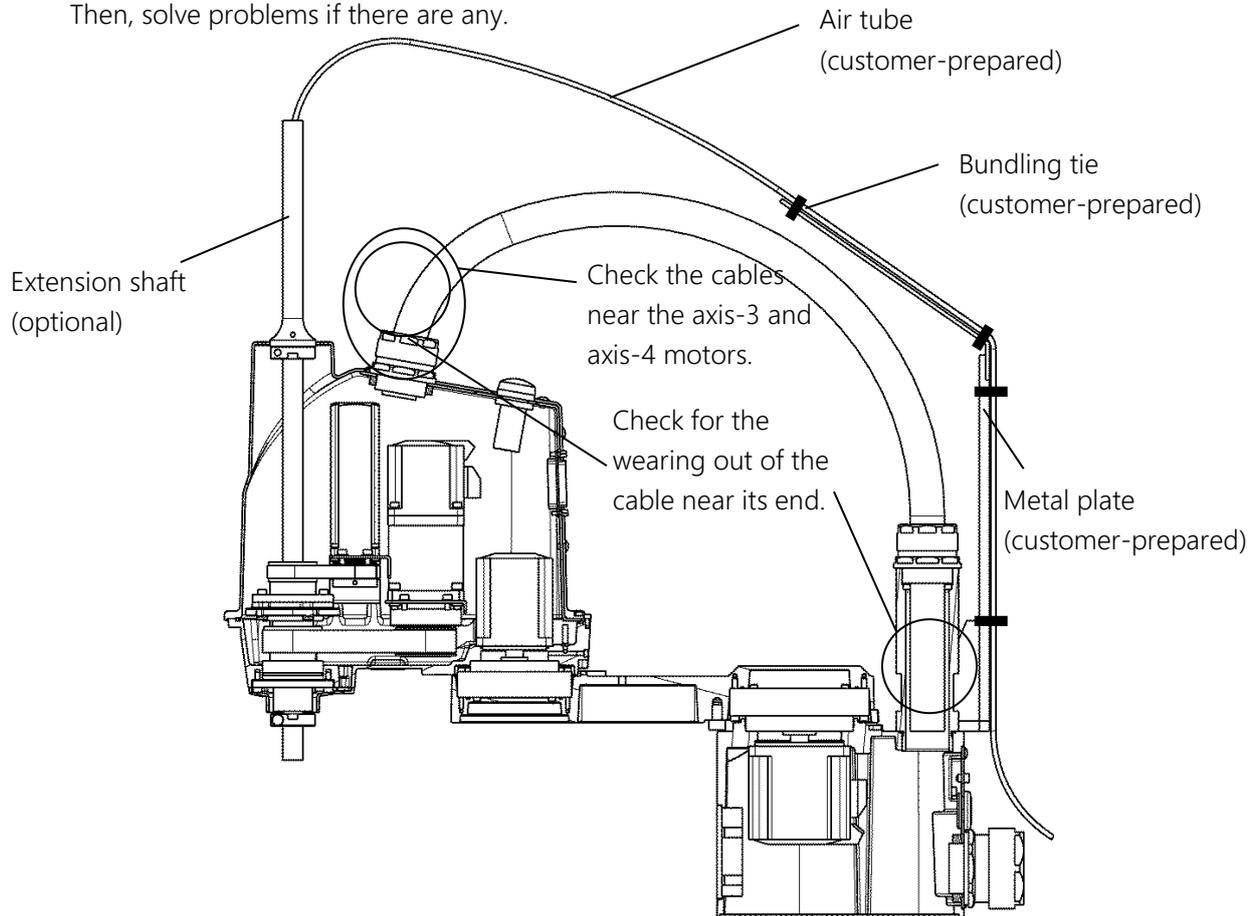

Fig. 7.3 Inspection points of cable
Remove the arm-2 cover and base rear cover to make sure that the cable is not worn out, bent or cracked. Particular care should be taken in checking locations near the ends of the cable. For how to remove the cover, see “7.3 Dismounting and Mounting Each Cover.” Fig. 7.3 shows an example of routing the air tube. Also, check for the wearing out or entanglement of the air tube and the connection of ductwork. Check that the air tube is not entangled and that the connection of ductwork is correct. Then, solve problems if there are any.
- Fig. 7.3 shows an example of ductwork. Note that breakage of air tube, etc. is not always under our warranty.